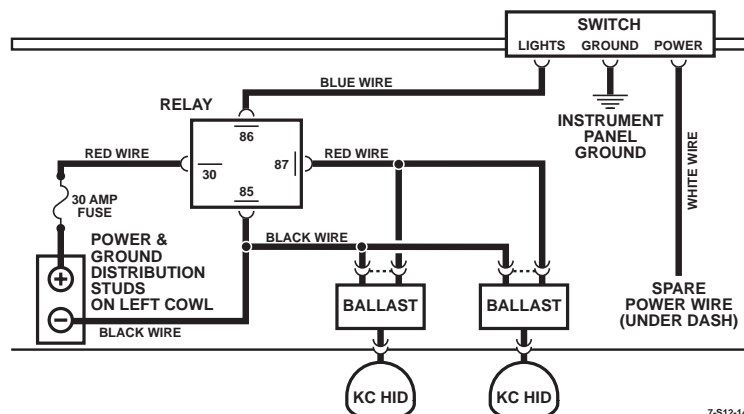

Figure 13-106: Wiring Schematic
6. The red wire (Figure 13-106) containing a 30 amp in-line fuse, supplies power to the relay on terminal 30 and connects to the power distribution stud (+) on the left cowl. The blue wire connects terminal 86 of the relay to either of the outside terminals on the switch. The red wire connects terminal 87 of the relay to the ballasts. The black wire is the ground for the ballasts and the relay. The black ground wire connects terminal 85 of the relay to the ground distribution stud (-) on the cowl. The center (ground) terminal of the switch connects to the instrument panel ground point under the left side of the dash. The white wire connects the remaining outside terminal of the switch to either of the spare power wires under the dash to the left of the steering column. The yellow spare power wire is tagged "battery power" and will allow use of the lights any time the switch is activated. The white spare power wire is tagged "ignition power" and will allow use of the lights only when the ignition switch is in the run position. Both of these power circuits are fused in the power distribution center of the Hummer.